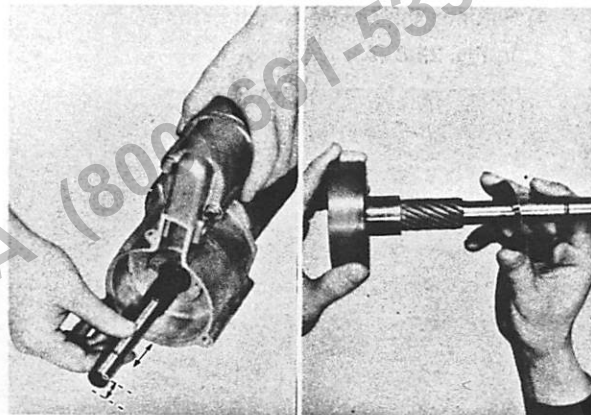

Fig. 22-15
- 2) Remove Adjuster Shim from the output shaft (Fig. 22-15 (A)).
(Ass.) Measure thrust gap (Fig. 22-15 (B)). Move it in the order of \leftrightarrow to check the gap. The thrust gap should be 0.1 ~ 0.3 mm (0.0039 ~ 0.0118 in).